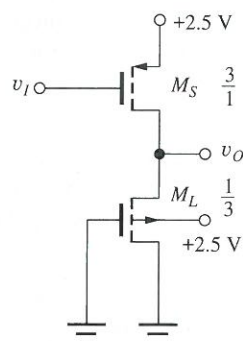

Figure P6.154
- 6.154. What are the values of V_H and V_L for the inverter of Fig. P6.154? Use the values in Table 6.5 on page 308.